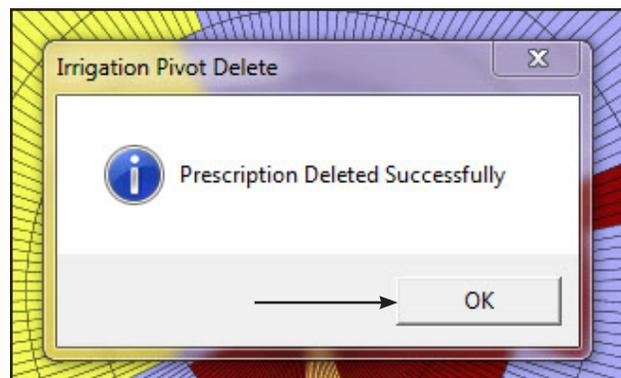

Figure 34-3 Deletion Successful
4. Click **OK**. (Refer to Figure 34-3.)